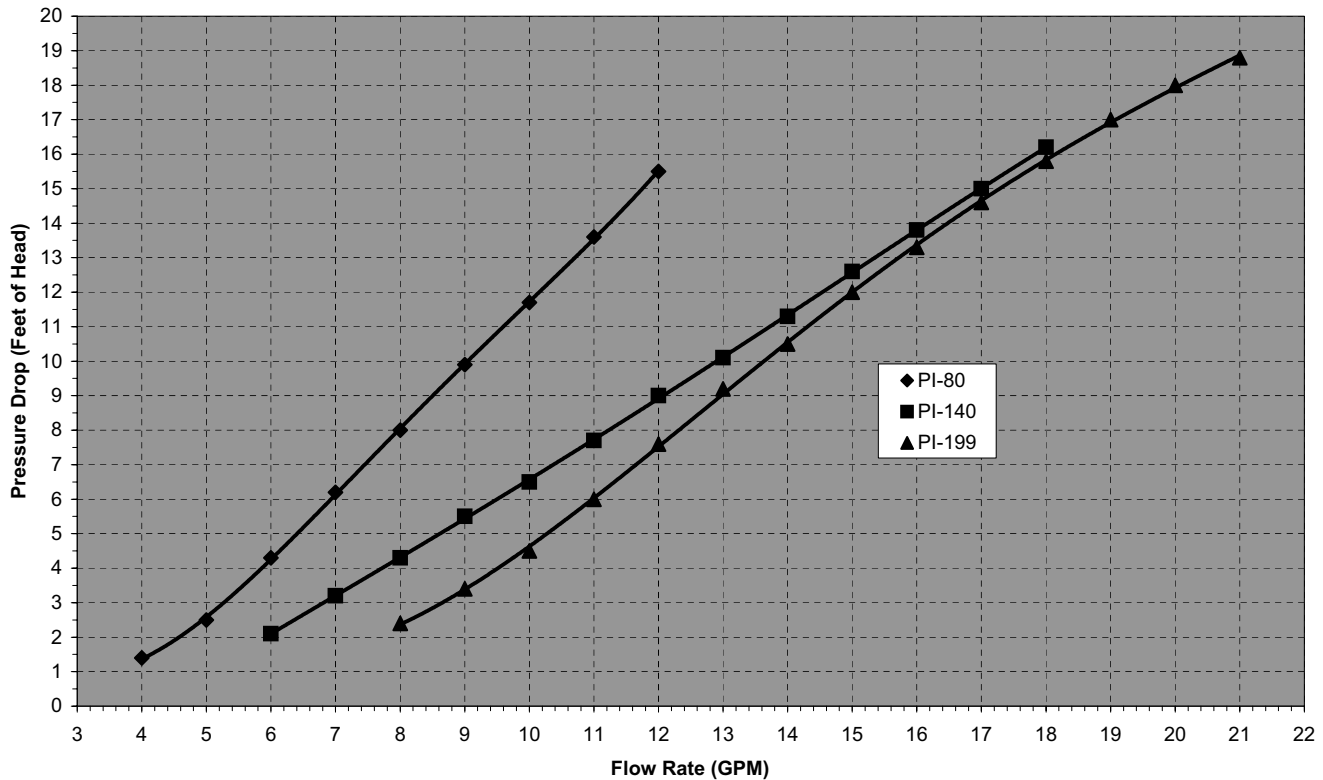

Figure 3.2
- c. So, for a PI-80 with a 20°F design temperature differential a circulator sized for 6.40 GPM should be used. The pressure drop can be determined using Figure 3.2, Pinnacle Circulator Sizing Graph.